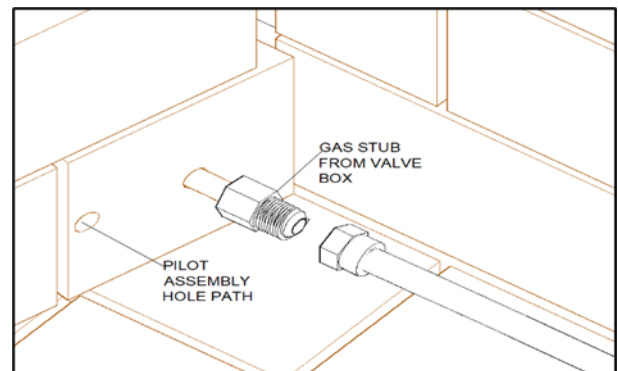

FIGURE 8
7. Connect the open end of 12" flex connector to the gas-supply. **Figure 8**